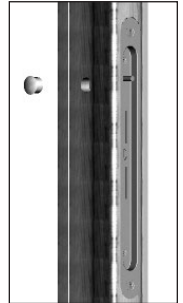

FIG. 23
- B) Plug access hole(s) with the provided hole cap(s) as shown in Fig. 23.